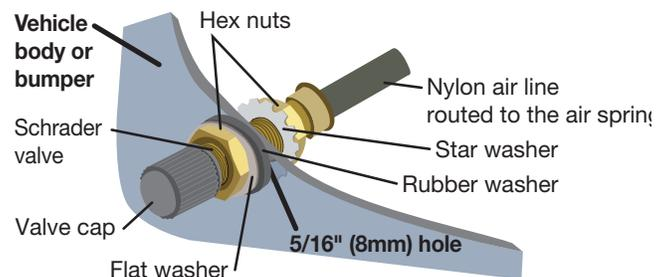

Fig. 31
4. Install the Schrader valve in the chosen location (Fig. 31).